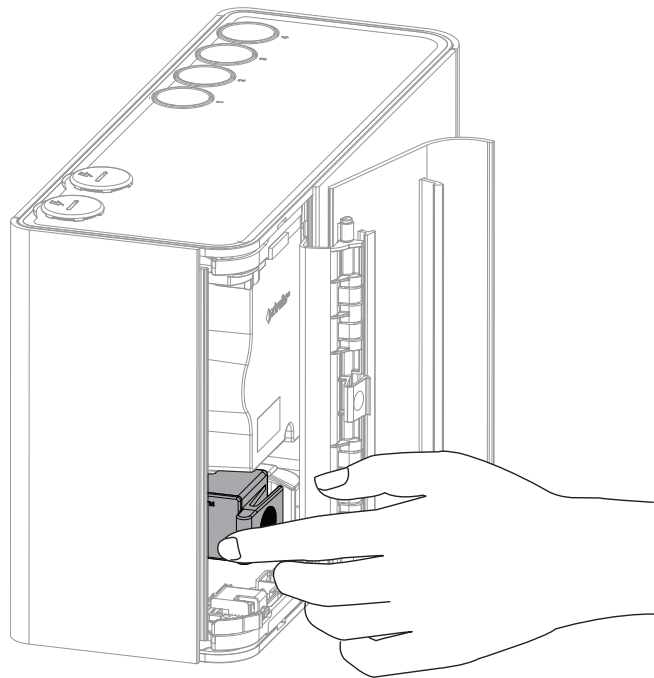

Figure 7-6: Reinstall the Filter
3. Firmly press, as shown in Figure 7-6, until the filter makes a distinct clicking sound and no additional movement is possible.